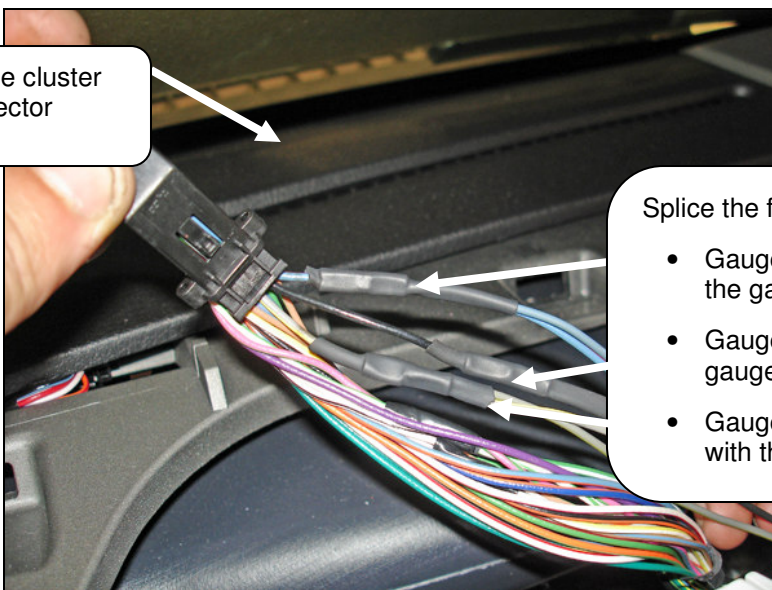

Figure 8
- Always twist wires together (where applicable) before inserting them into the butt connector (see Figure 8, detail view).
8. Splice the following wires (Figures 8 & 8a):